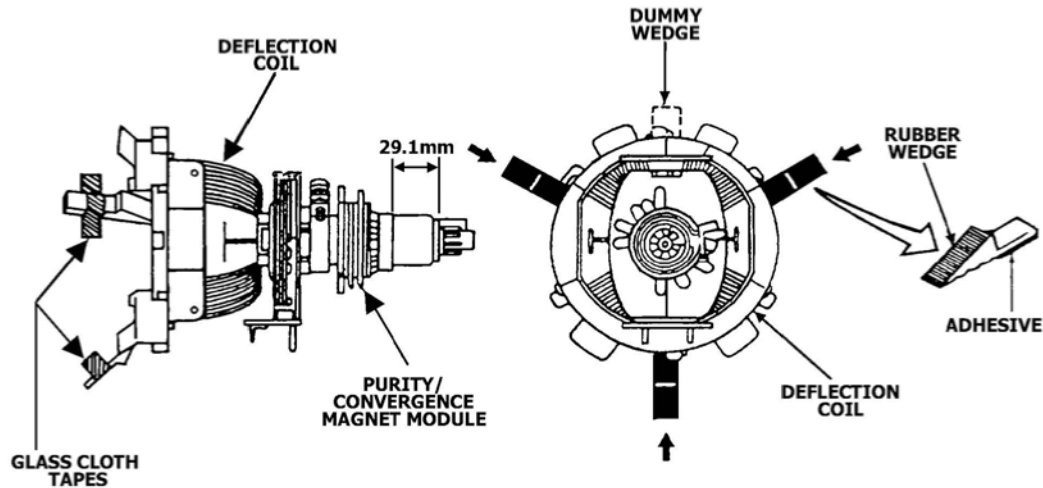

Fig. 1
1. Refer to Figure 1, remove 7 screws.
Note: If the Picture Tube is being replaced, mount the Degaussing Coil on the picture tube. See following Figure 1. Cabinet Back Removal